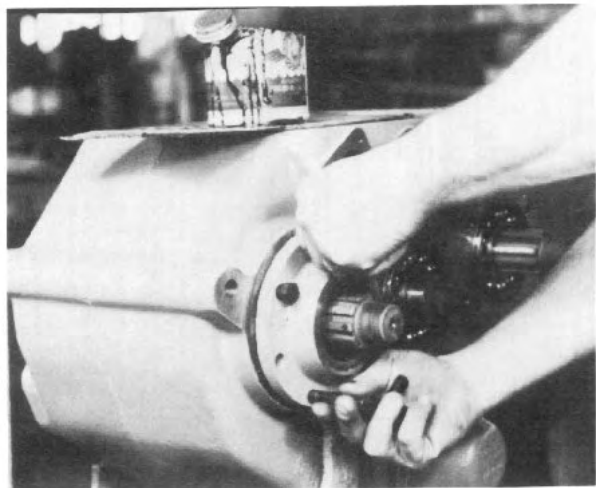

Fig. 32
9. Install the input seal carrier gasket in place on the front of the case housing and install the input seal carrier assembly in place. Permatex the mounting screws and tighten to the specified torque (See Fig. 32).